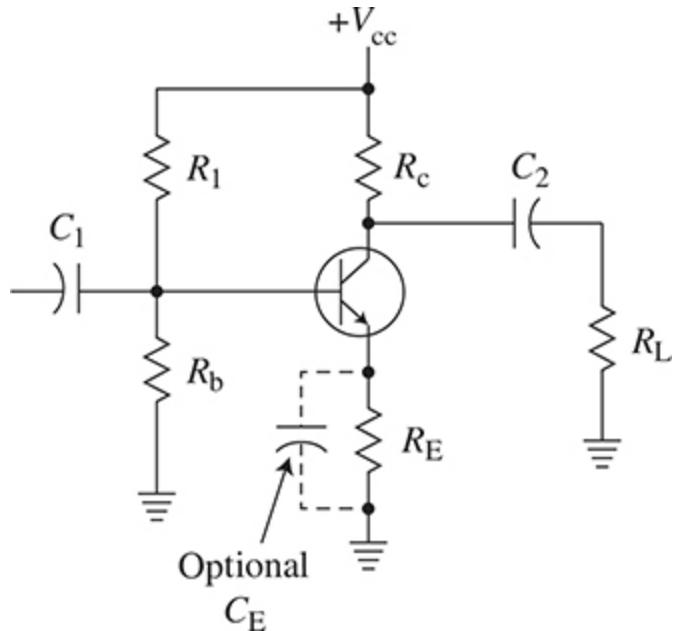

Figure C.1 A common emitter transistor amplifier showing bias and output load.
The amplifier to be designed is shown in Fig. C.1.
16. Referring back to Fig. C.1, you can see that this amplifier is ac coupled. The input signal is through C_1 that blocks the dc on the base. The output is through C_2 to the load, and it blocks the dc voltage at the collector. These capacitors determine the low-frequency response of the amplifier. Here is how to calculate the capacitor values.